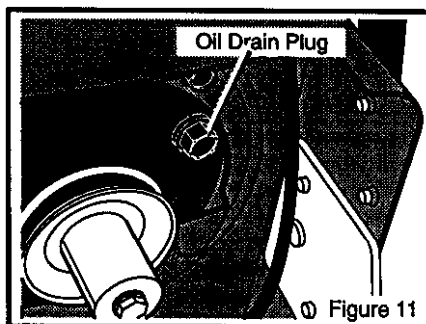

Figure 11
2. Remove the oil drain plug as shown in Figure 11.